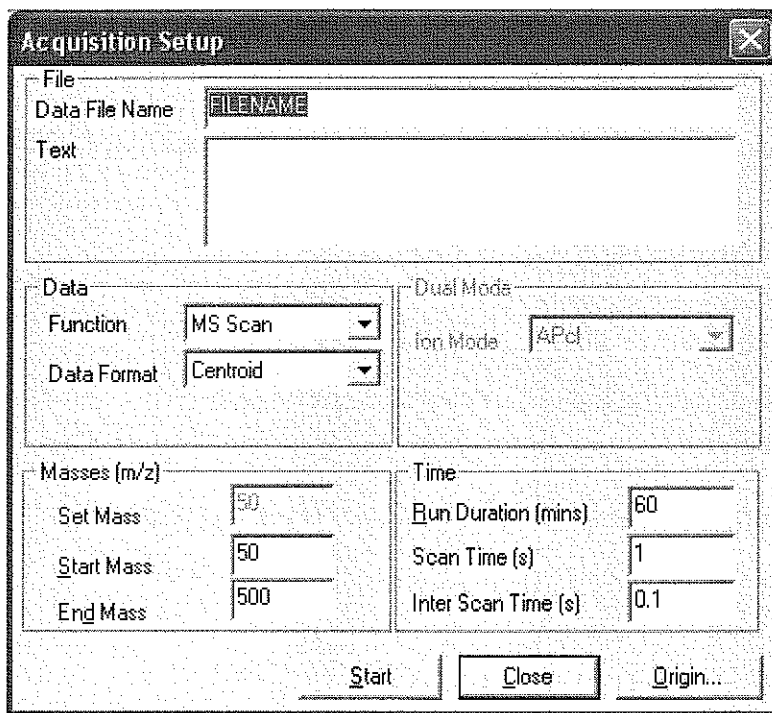

Figure 5-1 Acquisition Setup Dialog Box
1. In the Tune window, click Acquire, or select Window > Acquire to open the Acquisition Setup dialog box (Figure 5-1).